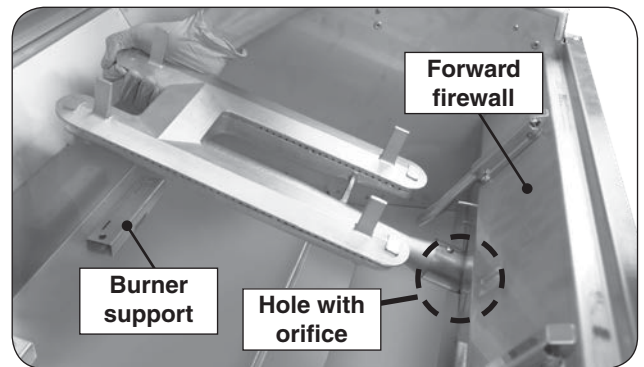

Fig. 49-2 Remove burners
3. Carefully lift the burner from the burner support and out from the hole in the forward fire wall. See Fig. 49-2.